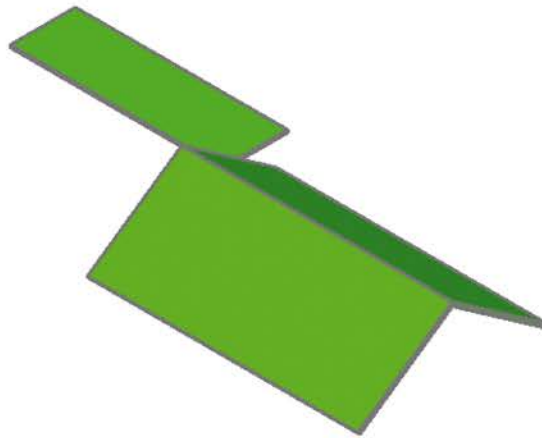

Fig. 17.14 First example – Realistic view of the roofs
10. Make the layer **Roofs** current and construct outlines of the roofs (main building and garage). See Fig. 17.14.